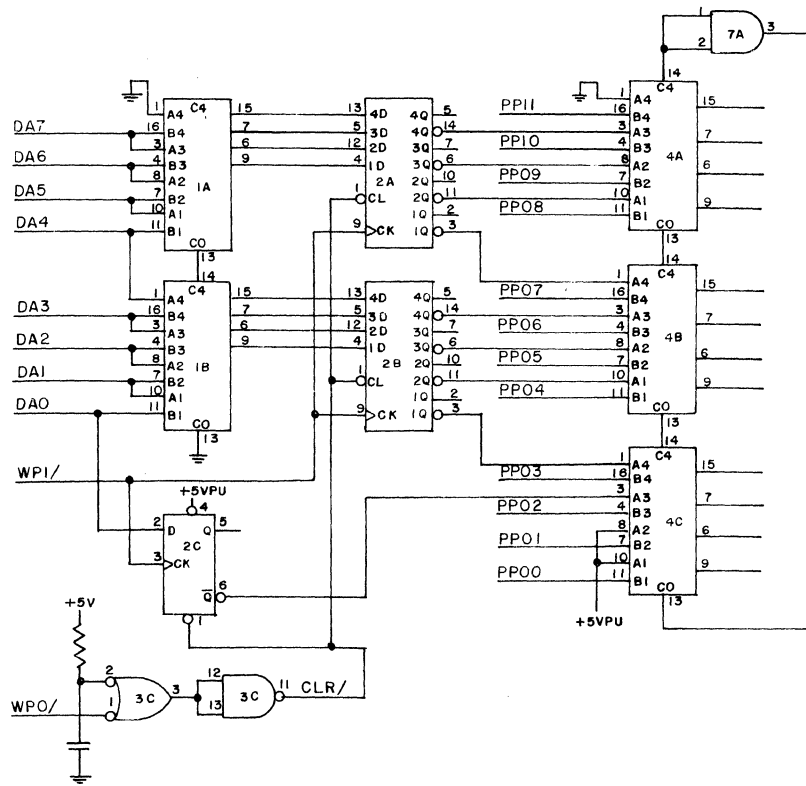

Figure 5-42. Desired Position Logic
The desired position register (2A, 2B and 2C-6 in Figure 5-42) holds the desired position to which the carriage must move. The value of desired position (DP) is defined as the number of dot position to the right of the left margin, plus 2. The printer CPU board outputs character position (the number of characters to the right of the left margin) via the DA0 through DA7 bus. Since there are 12 dot positions allotted for one character, the data supplied by the printer CPU board must be multiplied by 12 before it is loaded into the desired position register. This multiplication is performed in the two adder chips, 1A and 1B.